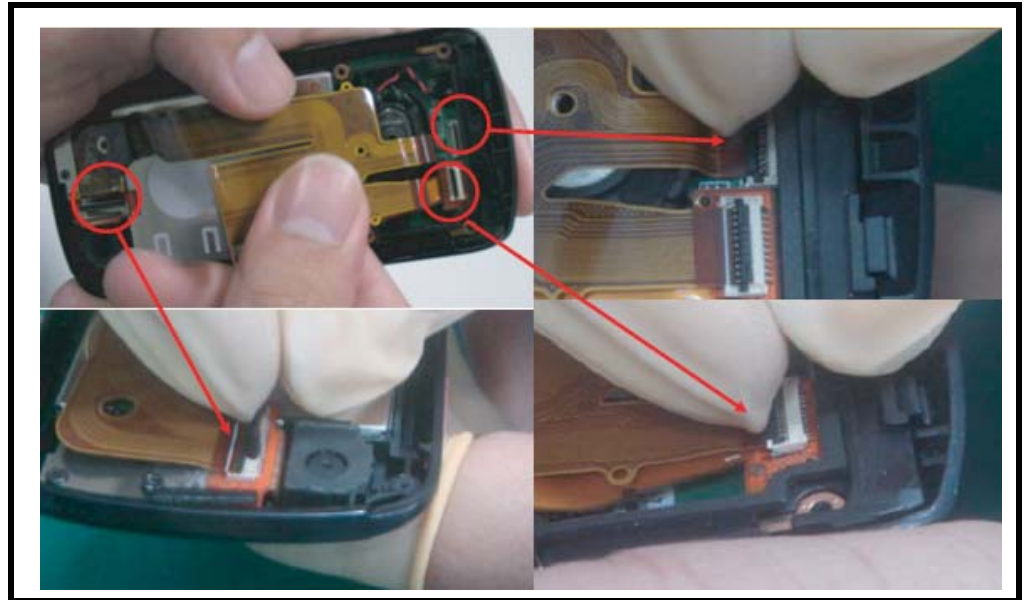

Figure 25. Remove board to board FPC
2. Unlock the 3 FPC connector to dismantle the main FPC as shown in Figure 25.